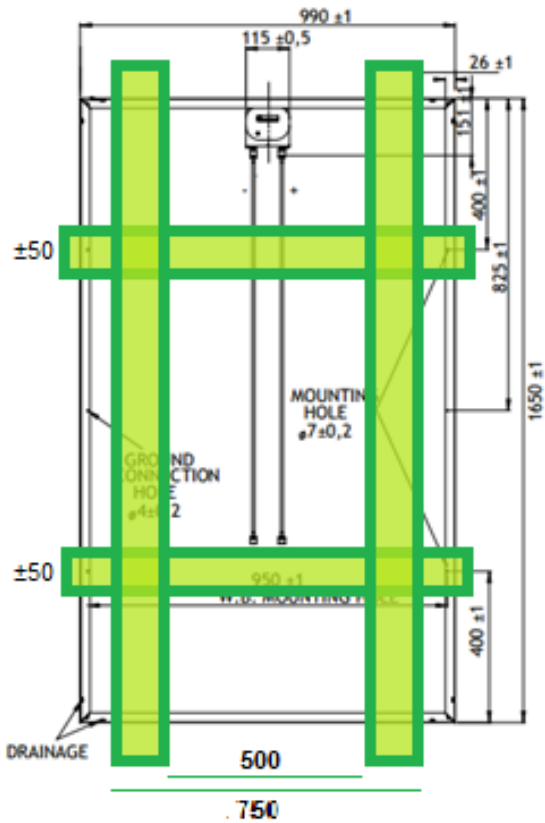

Fig. 5a: allowed positions for fixing SLA/SSA modules using mounting clamps.
- Both base structures must be mounted at the same distance from the symmetrical axis (portrait or landscape) of the module (Fig. 5a/5b).
- Placing the supporting elements as per Fig. 5a/5b is necessary in order to maintain a correct load distribution and achieve the minimum UL1703 design load rating of 30 lb/ft² and IEC61215 2400 Pa load rating.
- If the bars or rails are run parallel to the module’s short frames, they have to be placed nearby the mounting holes (± 50 mm of the mounting hole) in order to achieve IEC61215 5400 Pa downward load rating (Fig. 5a/5b).
- If the bars or rails are run parallel to the module’s long frames, they have to be placed with a spacing of 500-750 mm in order to achieve the UL1703 design load rating of 30 lb/ft² and IEC61215 2400 Pa load rating (Fig. 5a/5b).
- The modules can also be fixed by placing them with their frame on a structure that is supporting the two sides of the frame over their whole length. In this case, the position of the mounting clamps must be in accordance with the above mentioned spacing(s) - refer also to Fig. 5a/5b.